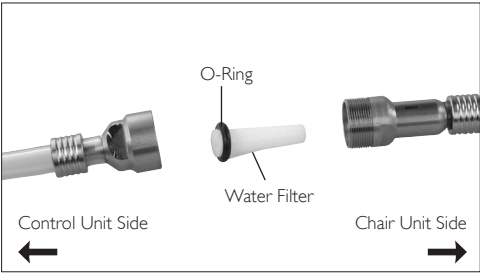

Fig.19
- 3) When the Water Filter case is separated, the Water Filter can be removed. **(Fig.19)**